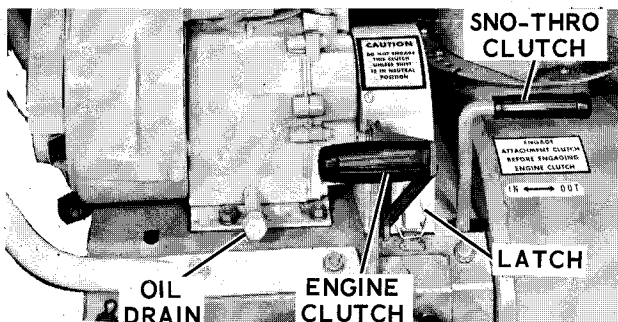

Figure 3
a. The engine clutch is controlled by a lever mounted on the right hand side of the unit (figure 3) just forward of the engine.
a. The Sno-Thro clutch is controlled by a lever at the rear of the Sno-Thro blower housing (figure 3).